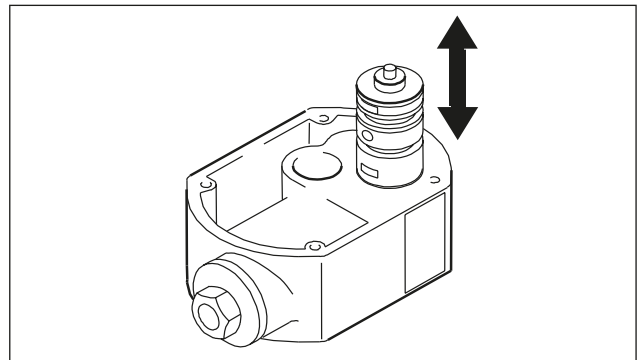

Fig. 18: Assembly of internal control valve
- The air control valve is replaced as a complete unit (Fig. 18).